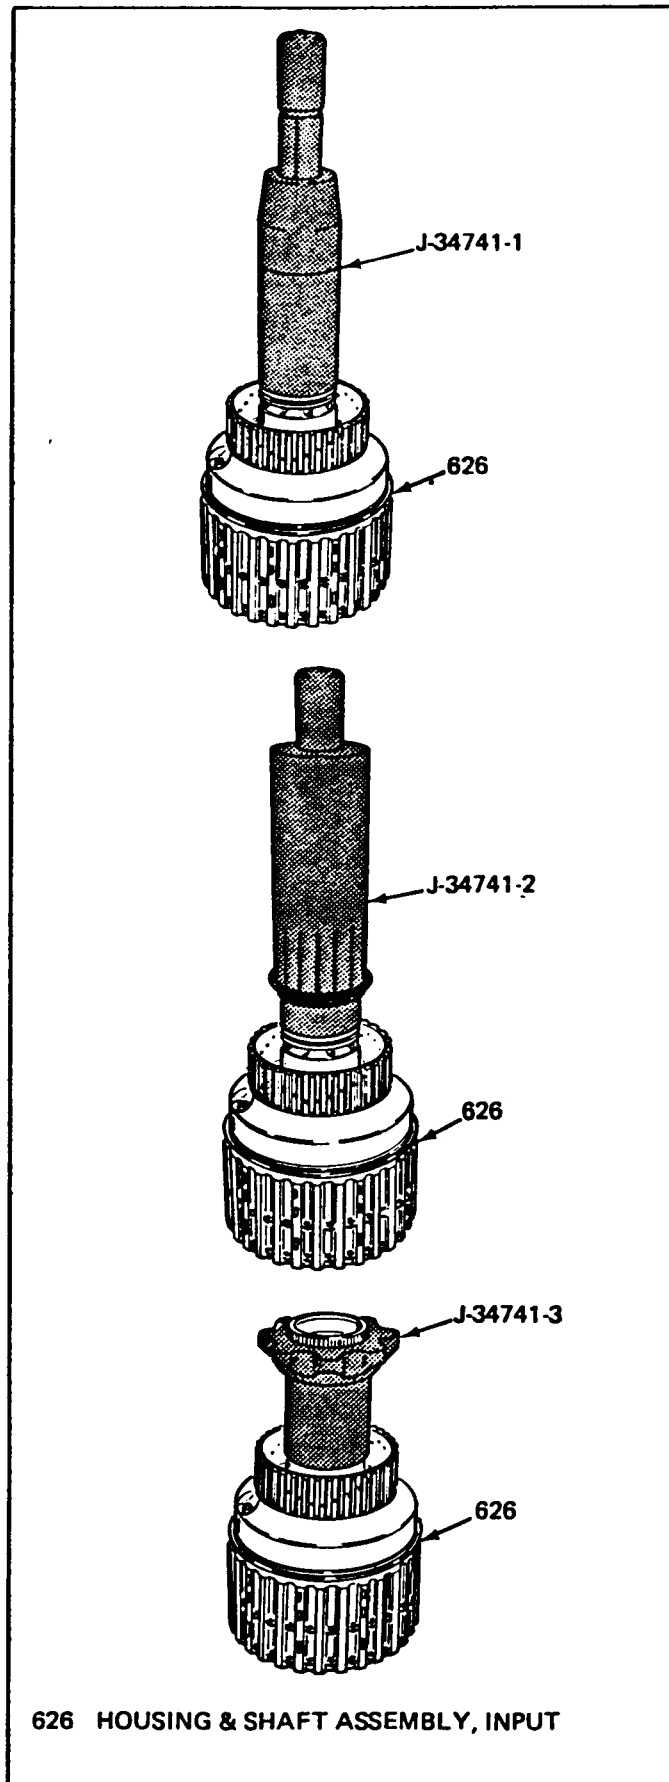

Figure 75
8. Use Figure 75 for reference.